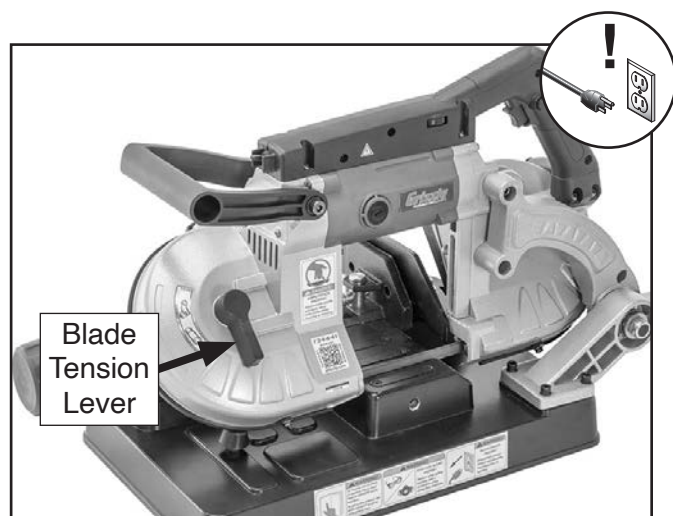

Figure 19. Location of blade tension lever.
3. Turn blade tension lever (see **Figure 19**) 180° clockwise to release blade tension.